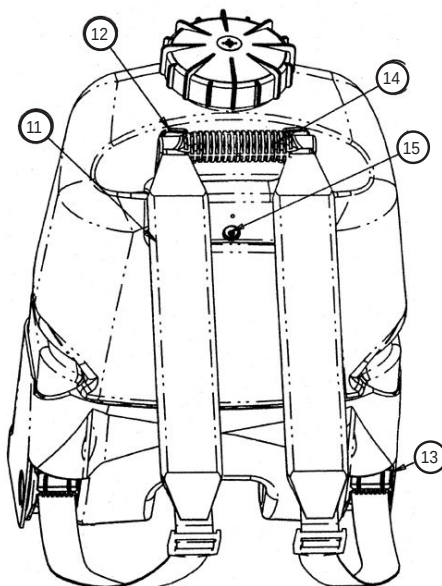

FIG. 2
10. Lower strap attachment clip (fig. 2, item 13) can be snapped out of base allowing either strap to be adjusted for easier mounting on the back. After adjustment, resnap clip back into the base.
HANDLE/STRAP ASSEMBLY (FIG. 2)